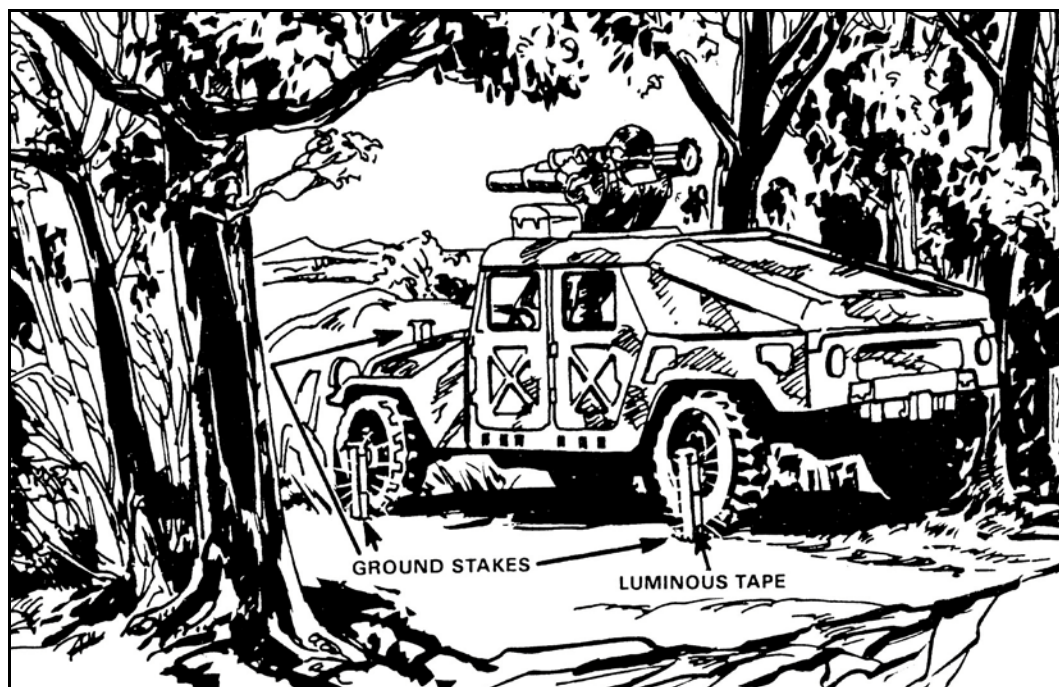

Figure D-4. Staking the position.
(1) After selecting a firing position, the leaders mark the position with stakes and prepare a range card. This enables the squad or another squad to occupy the firing position and use the data from the range card for the position. They use three stakes to mark a mounted firing position (Figure D-4). One stake is placed in front of and centered on the vehicle. It should be long enough so that the driver can see it as he moves the vehicle into position. The other two stakes are placed parallel to the left side of the vehicle and lined up with the hub on the front and rear wheels. The stakes are placed close to the vehicle with enough clearance to allow the driver to move into the position without knocking the stakes down. The stakes are driven solidly into the ground. Engineer tape or luminous tape can be placed on the friendly side of the stakes to make it easier to see them during limited visibility.